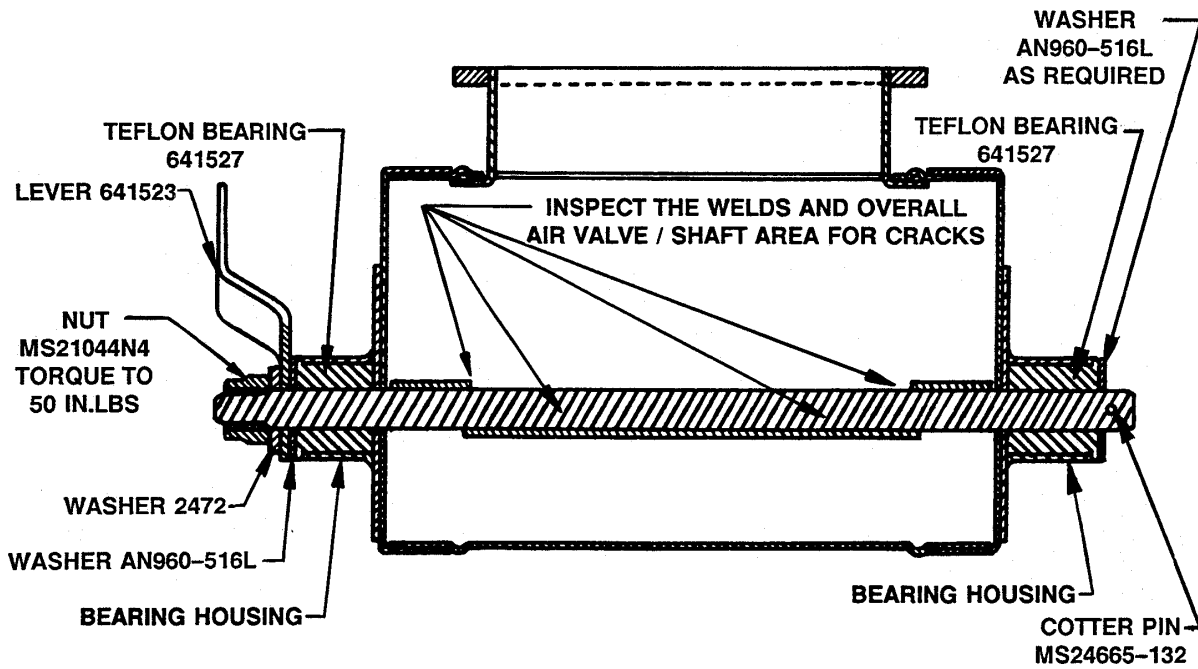

FIGURE 2
4. Inspect the entire carburetor air intake housing assembly for cracks. Using an inspection mirror and light, thoroughly inspect the welds that attach the air valve to the shaft and the areas of the air valve adjacent to the welds for cracks. See Figure 2.